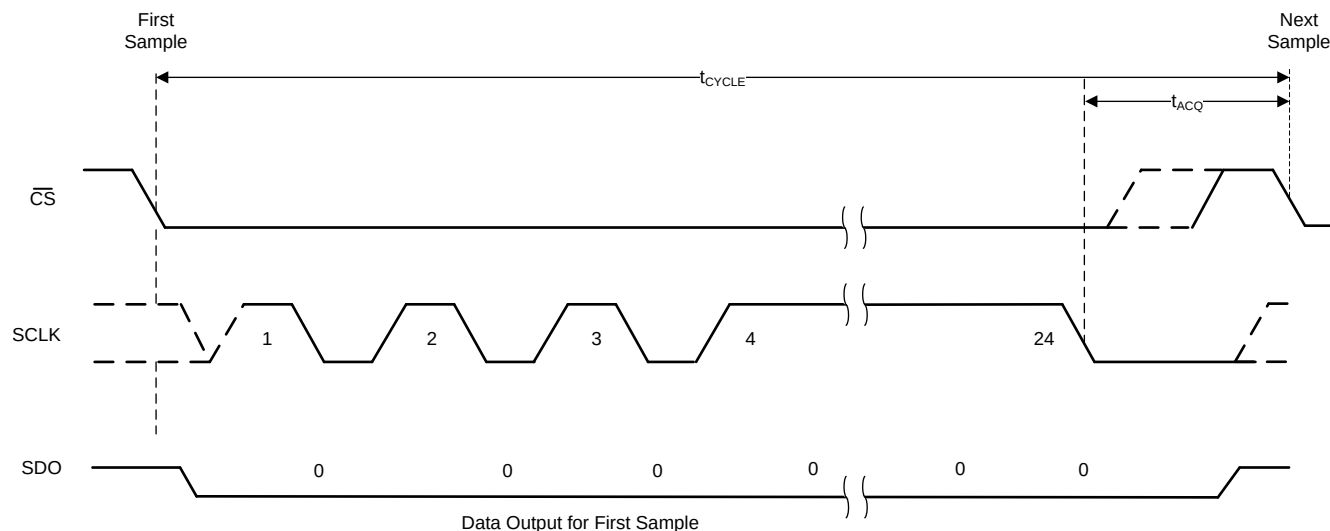
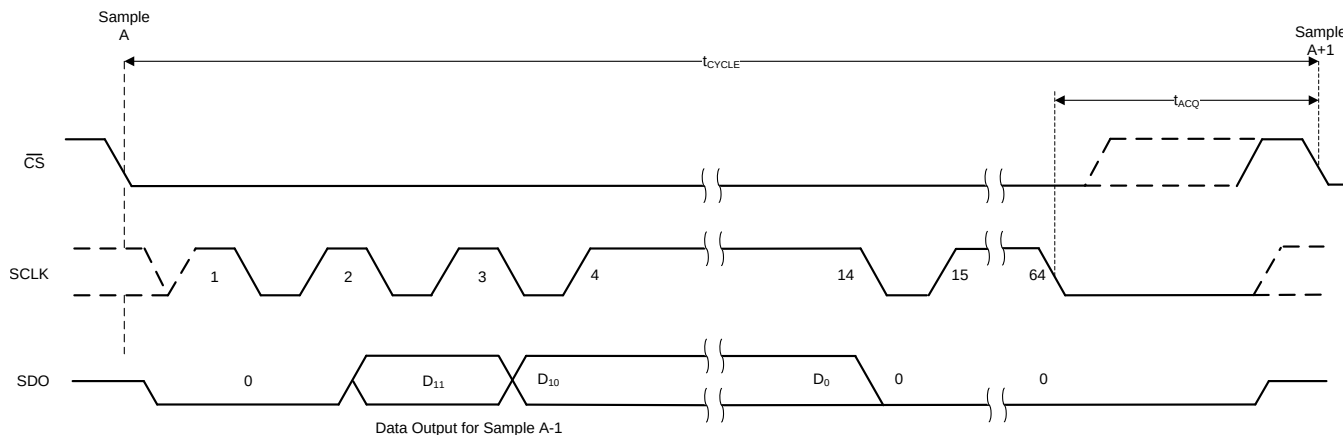

Figure 38. Timing for Offset Calibration on Power-Up
Figure 39. Timing for Offset Calibration During Normal Operation
The host controller must provide a serial transfer frame as described in Figure 38 or in Figure 39 to enter the OFFCAL state.
If the host controller starts the offset calibration process but then pulls the $\overline{CS}$ pin high before providing 24 SCLKs, then the offset calibration process is aborted and the device enters the ACQ state. Figure 38 and Table 3 provide the timing for offset calibration on power-up.
(1) In addition to the timing specifications of Figure 38 and Table 3, the timing specifications described in Figure 2 and the Timing Requirements table are also applicable for offset calibration on power-up.
If the host controller provides more than 15 SCLKs but pulls the $\overline{CS}$ high before providing 64 SCLKs, then the offset calibration process is aborted and the device enters the ACQ state. Figure 39 and Table 4 provide the timing for offset calibration during normal operation.
(1) In addition to the timing specifications of Figure 39 and Table 4, the timing specifications described in Figure 2 and the Timing Requirements table are also applicable for offset calibration during normal operation.